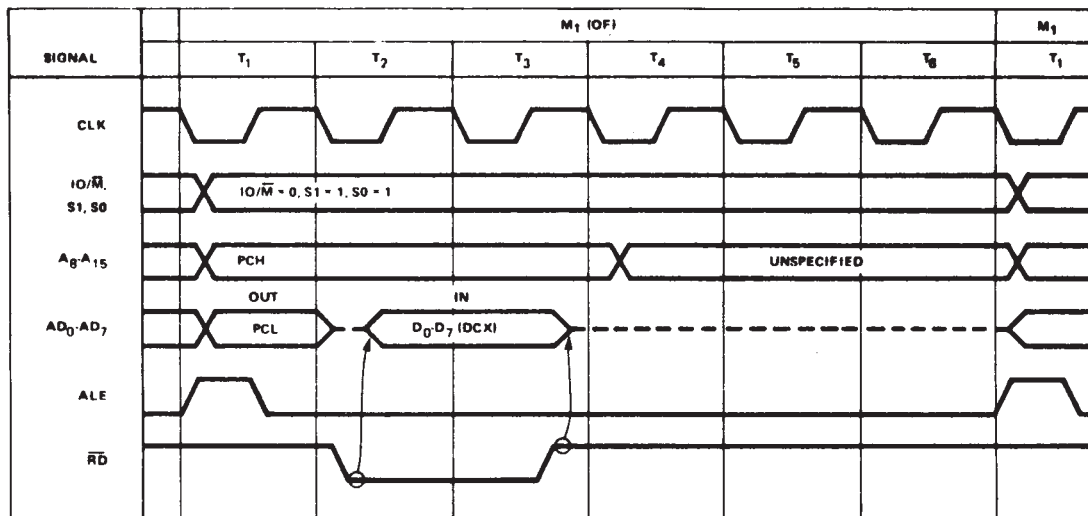
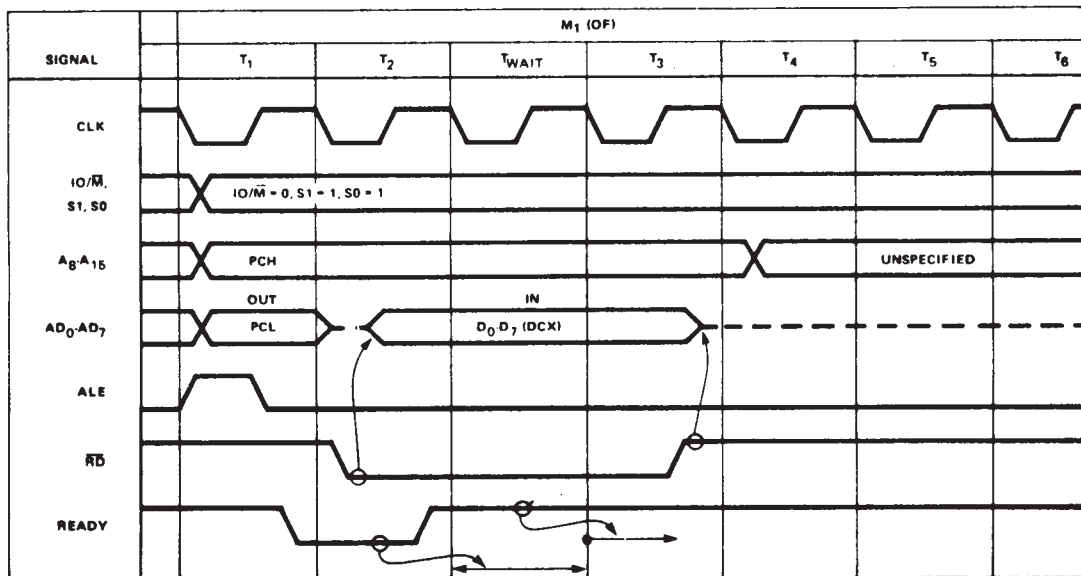
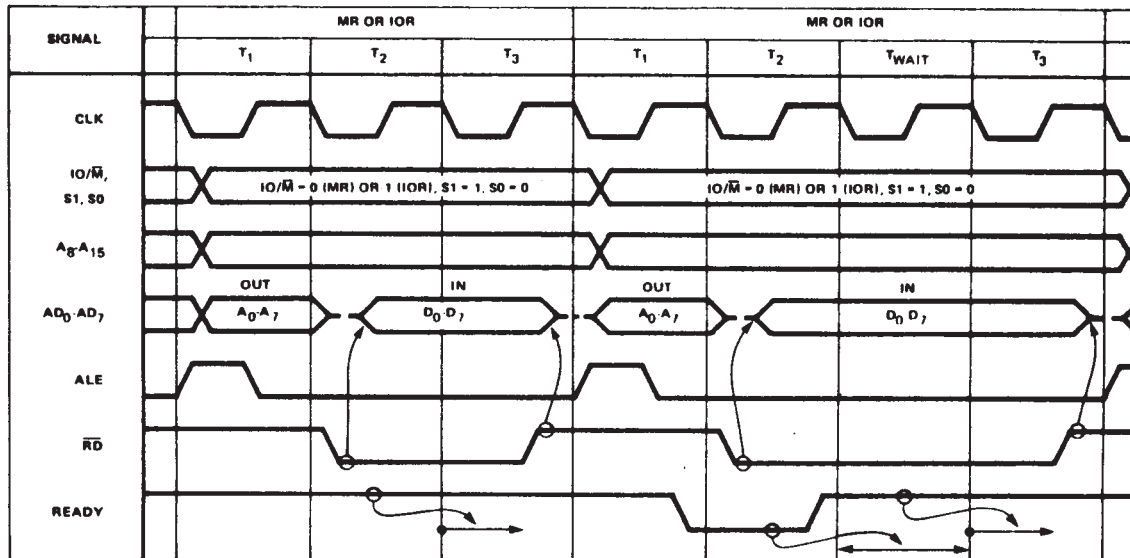

Figure 7-12 OPCODE FETCH MACHINE CYCLE (OF DCX INSTRUCTION)
Figure 7-13 OPCODE FETCH MACHINE CYCLE WITH ONE WAIT STATE
Figure 7-14 MEMORY READ (OR I/O READ) MACHINE CYCLES (WITH AND WITHOUT WAIT STATES)
The first thing that the 8085A does at the beginning of every machine cycle is to send out three status signals (IO/\overline{M} , S1, S0) that define what type of machine cycle is about to take place. The IO/\overline{M} signal identifies the machine cycle as being either a memory reference or input/output operation. The S1 status signal identifies whether the cycle is a READ or WRITE operation. The S0 and S1 status signals can be used together (see Figure 7-9) to identify READ, WRITE, or OP-CODE FETCH machine cycles as well as the HALT state. Referring to Figure 7-12, the 8085A will send out $IO/\overline{M} = 0$, S1 = 1, S0 = 1 at the beginning of the machine cycle to identify it as a READ from a memory location to obtain an opcode; in other words, it identifies the machine cycle as an OP-CODE FETCH cycle.
The 8085A also sends out a 16-bit address at the beginning of every machine cycle to identify the particular memory location or I/O port that the machine cycle applies to. In the case of an OF cycle, the contents of the program counter is placed on the address bus. The high order byte (PCH) is placed on the A₈-A₁₅ lines, where it will stay until at least T₄. The low order byte (PCL) is placed on the AD₀-AD₇ lines, whose three-state drivers are enabled if not found already on. Unlike the upper address lines, however, the information on the lower address lines will remain there for only one clock cycle, after which drivers will go to their high impedance state, indicated by a dashed line in Figure 7-12. This is necessary because the AD₀-AD₇ lines are time multiplexed between the address and data buses. During T₁ of every machine cycle, AD₀-AD₇ output the lower 8-bits of address after which AD₀-AD₇ will either output the desired data for a WRITE operation or the drivers will float (as is the case for the OF cycle), allowing the external device to drive the lines for a READ operation.
After the status signals and address have been sent out and the AD₀-AD₇ drivers have been disabled, the 8085A provides a low level on \overline{RD} to enable the addressed memory device. The device will then start driving the AD₀-AD₇ lines; this is indicated by the dashed line turning into a solid line in Figure 7-12. After a period of time (which is the access time of the memory) valid data will be present on AD₀-AD₇. The 8085A during T₃ will load the memory data on AD₀-AD₇ into its instruction register and then raise \overline{RD} to the high level, disabling the addressed memory device. At this point, the 8085A will have finished accessing the opcode of the instruction. Since this is the first machine cycle (M₁) of the instruction, the CPU will automatically step to T₄ as shown in Figure 7-10.
During T₄, the CPU will decode in the instruction register and decide whether to enter T₅ on the next clock or to start a new machine cycle and enter T₁. In the case of the DCX instruction shown in Figure 7-12, it will enter T₅ and then T₆ before going to T₁.
Figure 7-13 is identical to Figure 7-12 with one exception, which is the use of the READY line. As we can see in Figure 7-10, when the CPU is in T_2 , it examines the state of the READY line. If the READY line is high, the CPU will proceed to T_3 and finish executing the instruction. If the READY line is low, however, the CPU will enter T_{WAIT} and stay there indefinitely until READY goes high. When the READY line does go high, the CPU will exit T_{WAIT} and enter T_3 , in order to complete the machine cycle. As shown in Figure 7-13, the external effect of using the READY line is to preserve the exact state of the processor signals at the end of T_2 for an integral number of clock periods, before finishing the machine cycle. This 'stretching' of the system timing has the further effect of increasing the allowable access time for memory or I/O devices. By inserting T_{WAIT} states, the 8085A can accommodate even the slowest of memories. Another common use of the READY line is to single-step the processor with a manual switch.
Figure 7-14 shows the timing of two successive MEMORY READ (MR) machine cycles, the first without a T_{WAIT} state and the second with one T_{WAIT} state. The timing during T_1-T_3 is absolutely identical to the OPCODE FETCH machine cycle, with the exception that the status sent out during T_1 is $IO/\overline{M} = 0$, $S1 = 1$, $S0 = 0$, identifying the cycles as a READ from a memory location. This differs from Figure 7-12 only in that $S0 = 1$ for an OF cycle, identifying that cycle as an OPCODE FETCH operation. Otherwise, the two cycles are identical during T_1-T_3 .
Figure 7-14 also shows the timing of two successive I/O READ (IOR) machine cycles, the first without a T_{WAIT} state. As is readily apparent, the timing of an IOR cycle is identical to the timing of an MR cycle, with the exception of $IO/\overline{M} = 0$ for MR and $IO/\overline{M} = 1$ for IOR; recall that IO/\overline{M} status signal identifies the address of the current machine cycle as selecting either a memory location or an I/O port. The address used in the IOR cycle comes from the second byte (Port No.) of an INPUT instruction. Note that the I/O port address is duplicated onto both AD₀-AD₇ and A₈-A₁₅. The IOR cycle can occur only as the third machine cycle of an INPUT instruction.